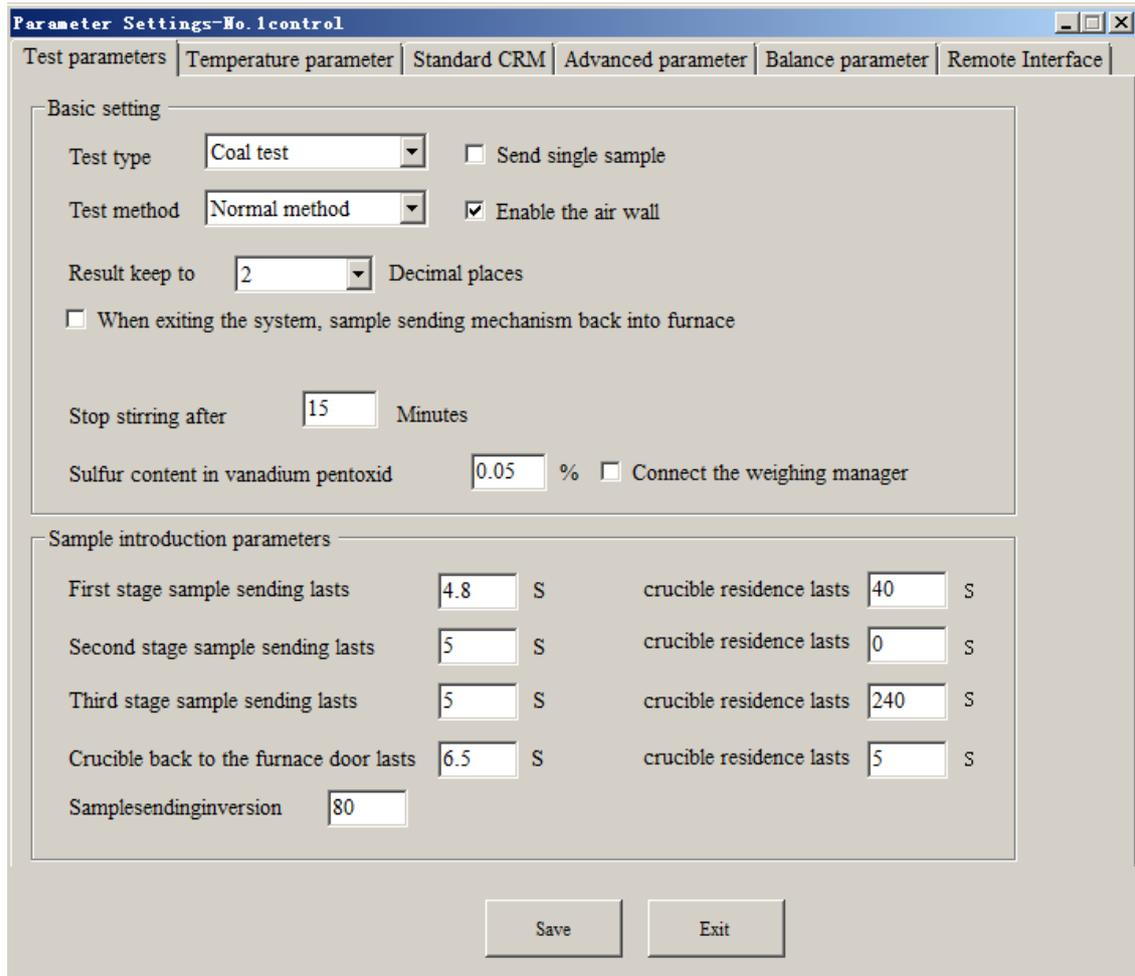

Fig 4-4-1
1. Parameter Settings: Click on this menu option or the setting icon in the shortcut menu bar to get into the parameter settings window (Fig 4-4-1) and set the related parameters.
1-1 Test parameters setting: Click "Setting" tab, as shown in Fig 4-4-1.